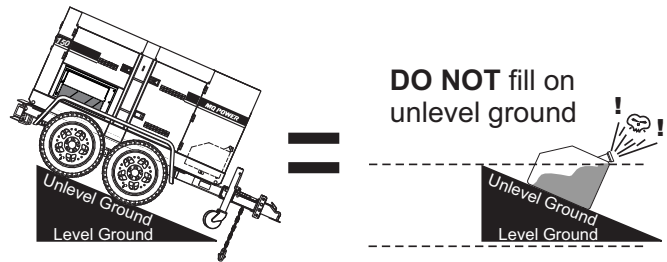

Figure 39. Only Fill On Level Ground
1. **Level Tank** — Make sure fuel tank is level with the ground. Failure to do so will cause fuel to spill from the tank before reaching full capacity (Figure 39).